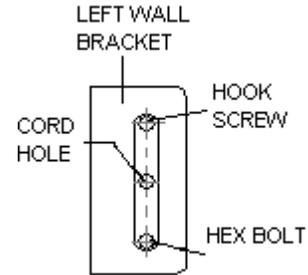

Figure 2d:
- If you plan on operating your Window Awning from inside your home, on the **left side only** of the mounting location, measure the distance from the center of the Hex Bolt location to the center of the Hook Screw location and make a new mark for the Cord Hole on the center line half way between these two points, as shown in figure 2d.